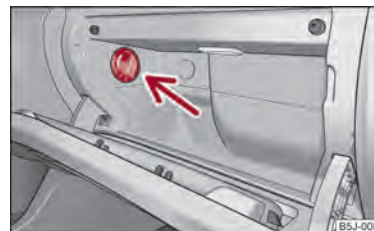

Fig. 64 Storage compartment: Using cooling system
- You can switch the cooling system on or off using the control dial ⇒ fig. 64.